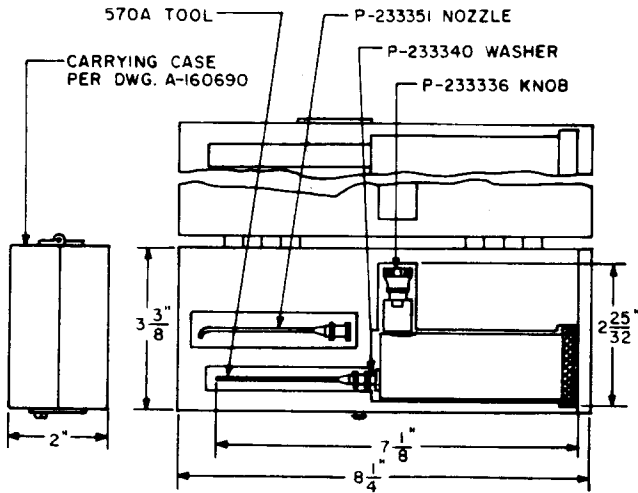

Fig. 3—431A Oil Gun
2.03 **431A Oil Gun:** The 431A oil gun (Fig. 3) is designed to discharge oil in definite limited quantities. A wooden carrying case, one curved nozzle, and one straight nozzle are furnished with the oil gun. The 431A oil gun is intended for general use and replaces the 297, 362A, and 362B tools.